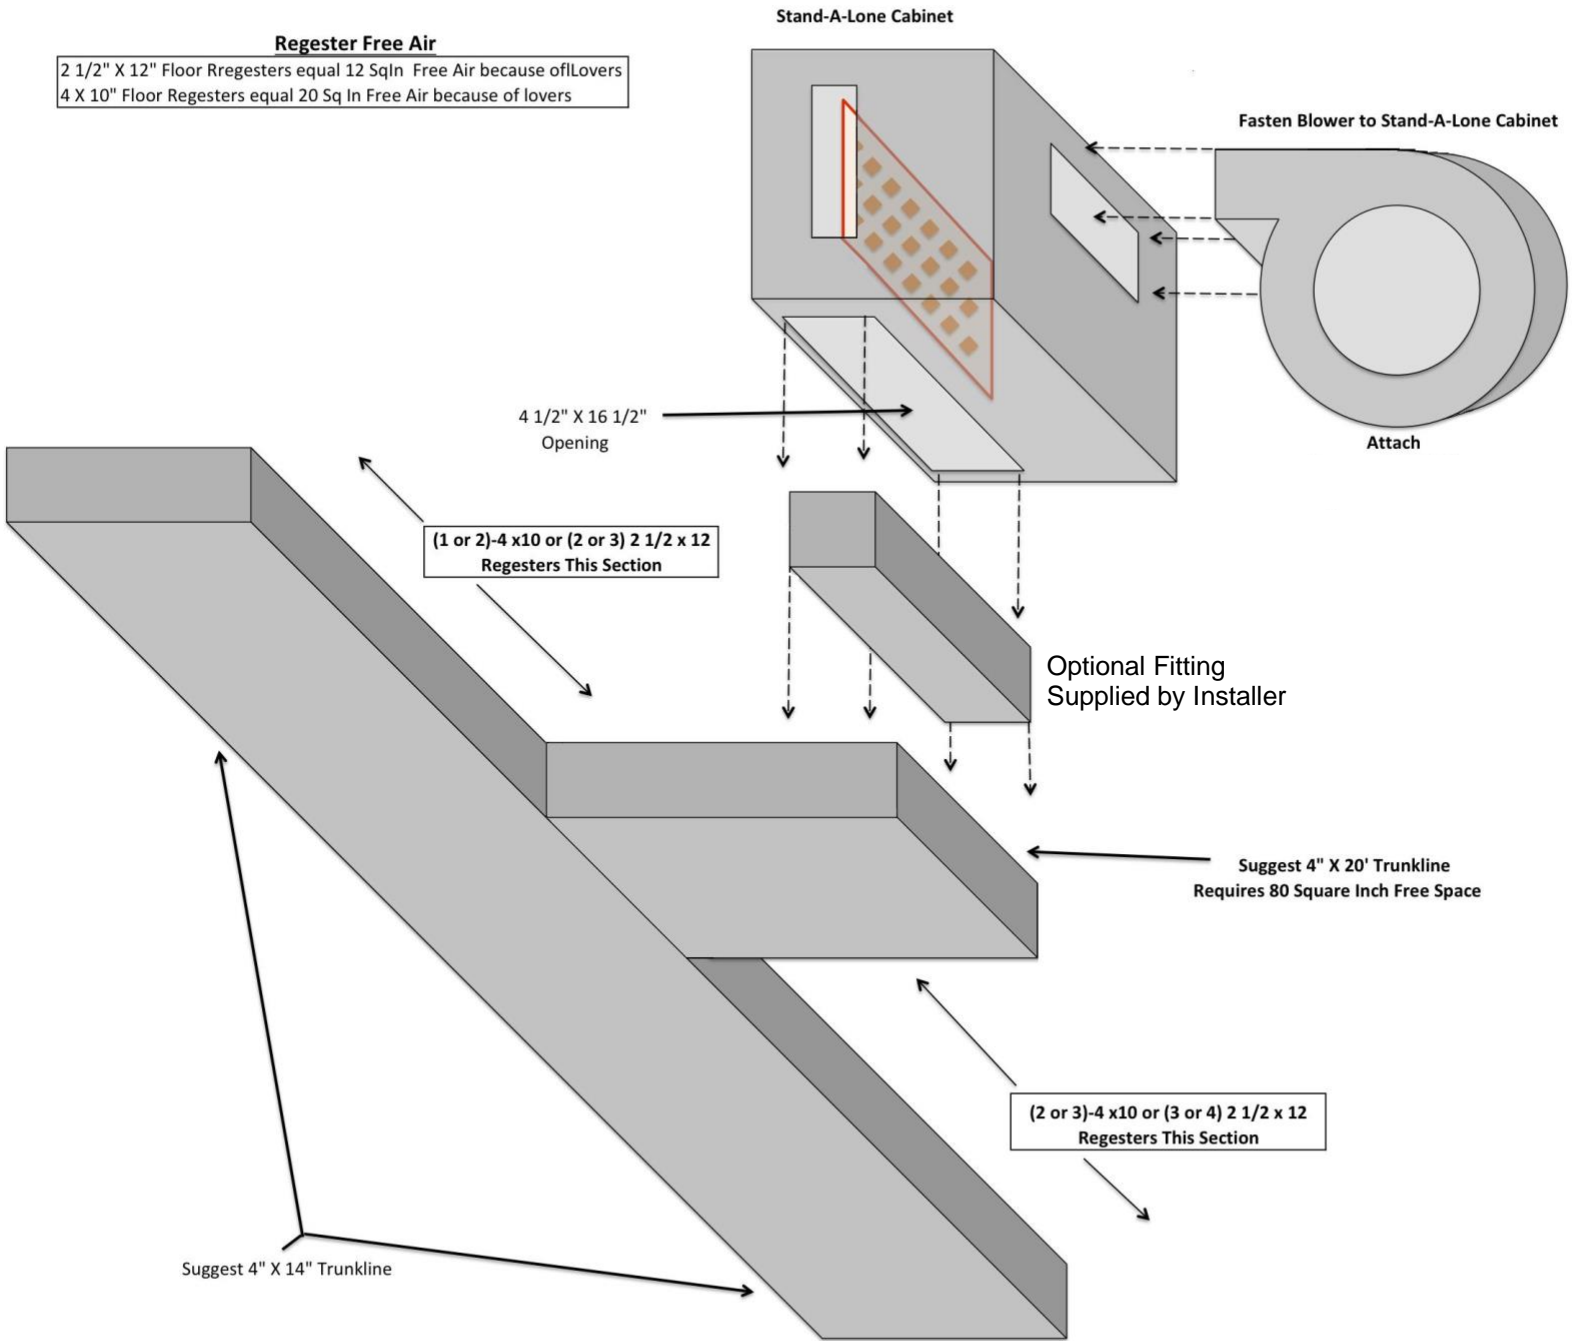

Figure 8
1. Measure a 4 $\frac{3}{4}$ " X 16 $\frac{3}{4}$ " section on the floor that aligns with the opening in the bottom of the Stand-A-Lone Cabinet and a hole in floor to access furnace plenum (see figure 8).